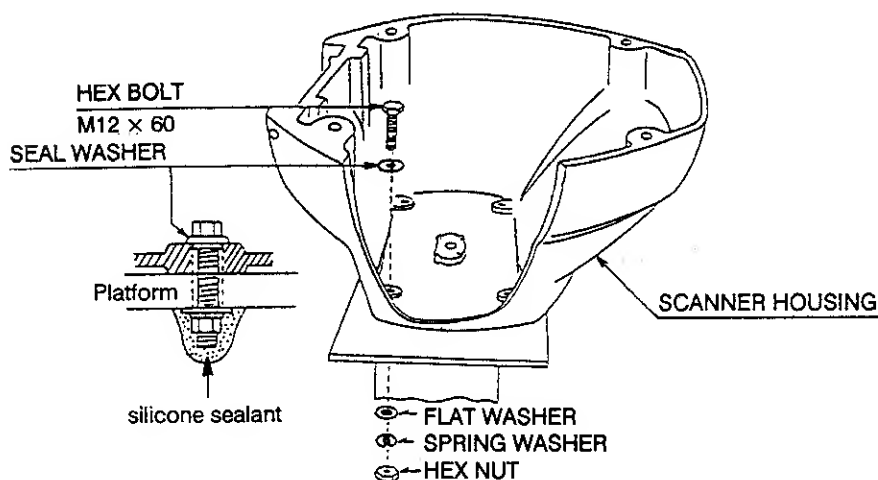

Figure 5-2 How to mount the scanner housing
- 4) Insert four M12 × 60 hex head bolts with the seal washers from inside the scanner housing, to prevent the bolts from contacting the transceiver module. Install the seal washer with the larger diameter next to the head of the bolt. Coat flat and spring washers and nuts and then use them to fasten the scanner housing to the mounting platform. Finally, coat exposed parts of nuts, bolts and flat and spring washers as shown in Figure 5-2.